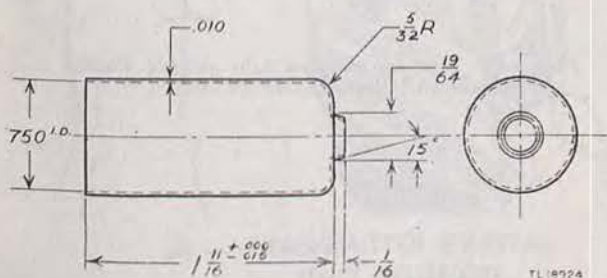

Figure 28. Tube shield dimensions, Radio Receiver and Transmitter BC-611-(*).
(8) *Tube shields.* Tube shields must conform with dimensions shown in figure 28 and must be clean and not dented.